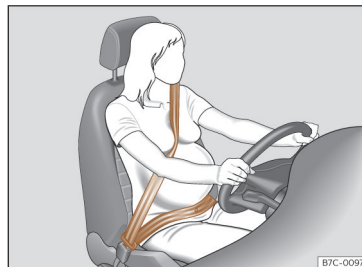

Fig. 16 Position of seat belt during pregnancy.
In the case of **pregnant women**, the seat belt must lie evenly across the chest and as low as possible over the pelvis, never across the stomach and must be worn properly at all times during the pregnancy»» Fig. 16 .
- For pregnant women, the lap part of the seat belt must lie as low as possible over the pelvis and always lie flat, “surrounding” the stomach»» Fig. 16 .